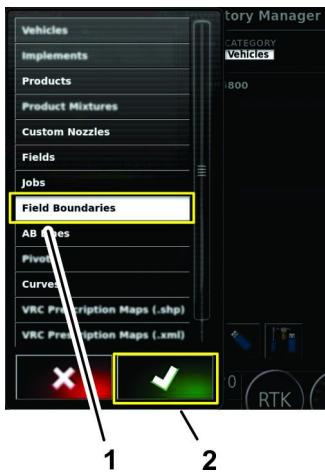

Figure 99
6. In the category list, press the icon for the information category that you want to export, and press the confirm icon (Figure 99).